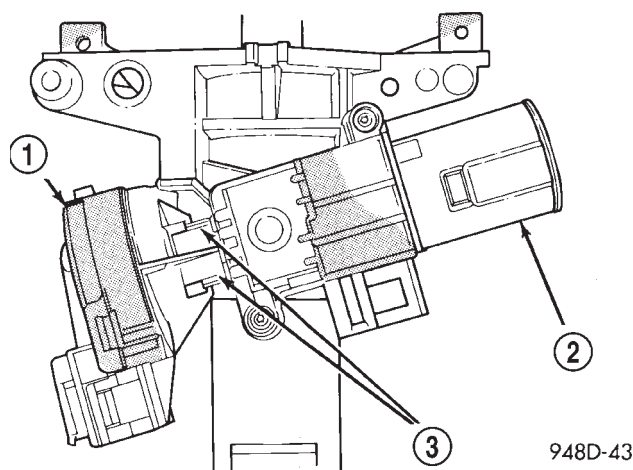

Fig. 14 Ignition Switch—Viewed From Below Column
The ignition switch attaches to the lock cylinder housing on the end opposite the lock cylinder (Fig. 14). For ignition switch terminal and circuit identification, refer to Group 8W, Wiring Diagrams.
(15) Depress retaining tabs (Fig. 14) and pull ignition switch from steering column.